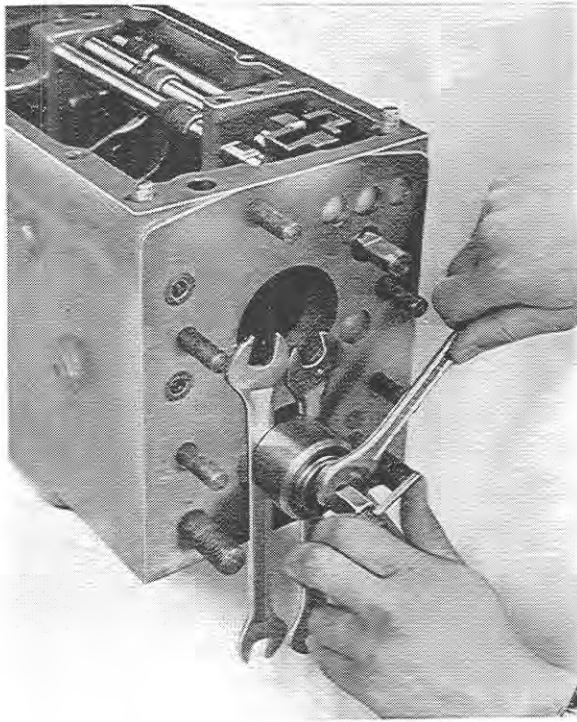

Fig. 6
**NOTE:** Since the diameter of the bell of MAPO is somewhat small to push against the housing, it is necessary to place underneath it two tools (such as flat spanners or plates of the same thickness) (see Fig. 6).